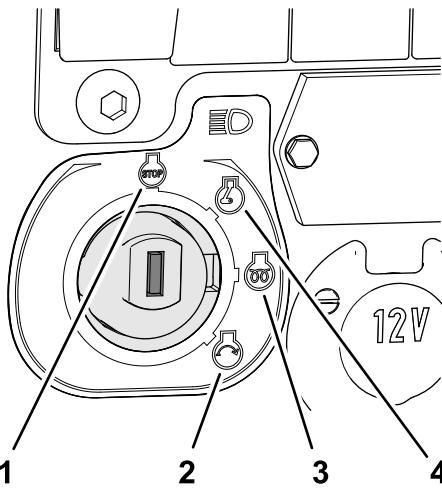

Figure 33
2. Turn the ignition key to the RUN position (Figure 33).